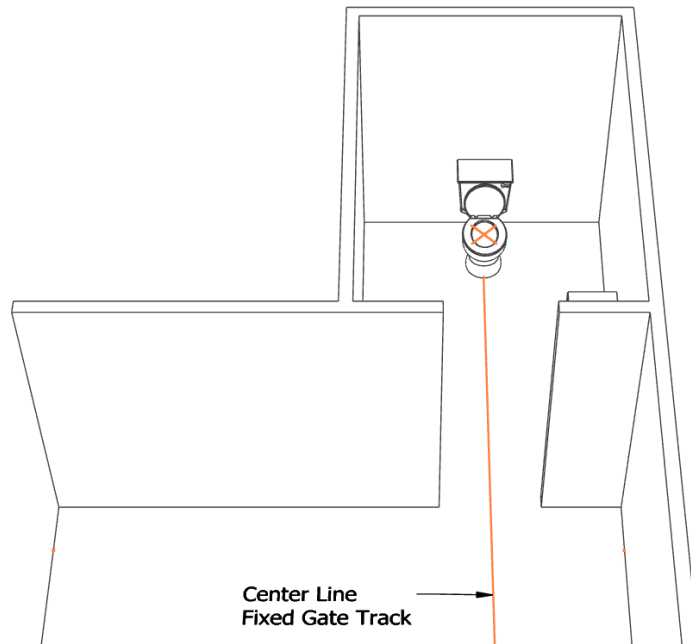

Figure 72: ***Straight Line Between Points***
- This line represents the center line of the fixed gate track (Figure 72)